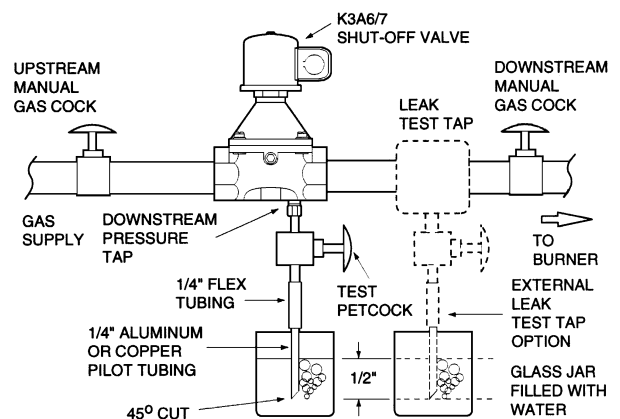

Figure 3. Testing for internal seat leakage.
Series K3A6 and K3A7 valves are provided with two 1/8" NPT tapped and plugged holes (pressure taps). The upstream tapped and plugged hole is on the side of the valve body; downstream on the bottom of the valve body. One upstream for pressure testing; one downstream for seat leakage testing. Leakage testing frequency shall be at least annually in accordance with NFPA-86 or original equipment manufacturer recommendations. For instructions, refer to section on *Testing for Internal (Seat) Leakage* and Figure 3.
### Testing for Internal (Seat) Leakage (Refer to Figure 3)
4. Shut off the upstream manual gas cock and de-energize valve. Remove the plug from the leak test tap or downstream pressure tap in the valve body. Connect leak test equipment with the test petcock in the closed position (Figure 3).